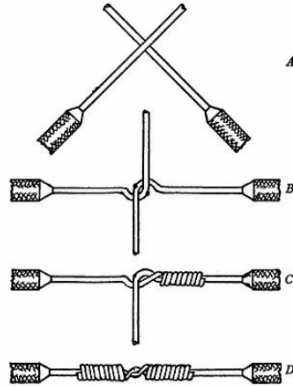

Figure 2-Western Union splice has diameter less than the insulated wires and no sharp points
4. All of the splices will be Western Union splices, as diagrammed in Figure 2. Twist wires carefully so no sharp edges project from the ends of the wires.